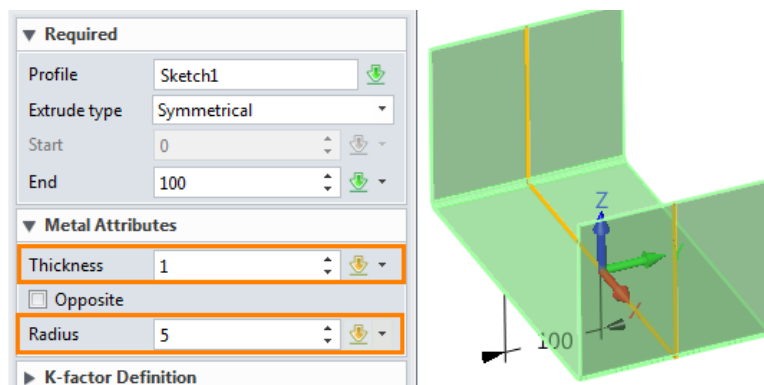

Figure 9 Extrude Flange
STEP 02 Extrude flange as shown in Figure 9.